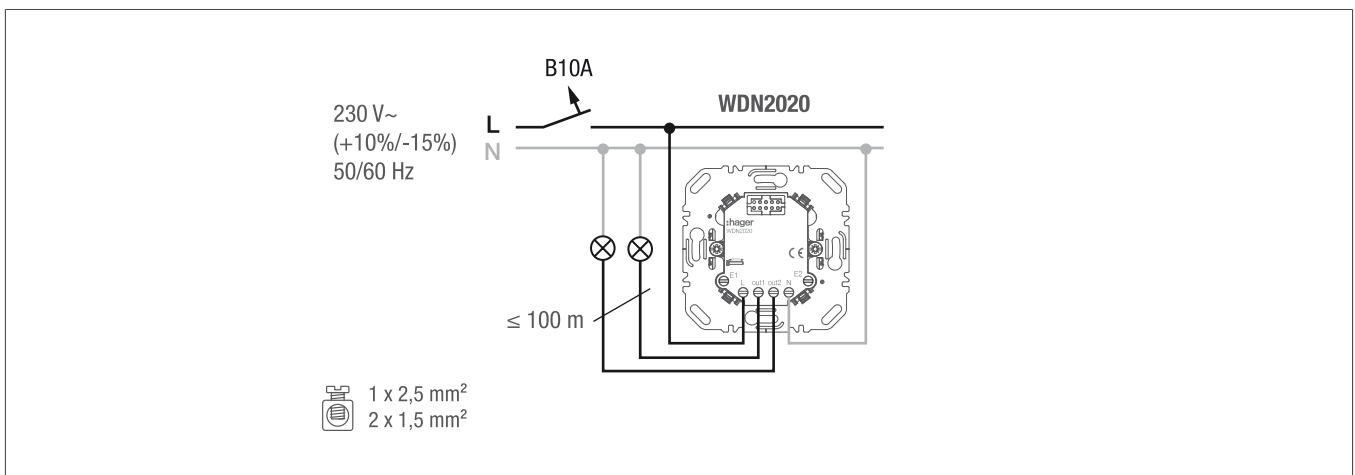

Fig. 2: Connection diagram
① Connect the device according to the connection diagram (Figure 2 or 3).